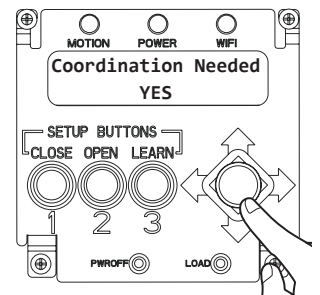

Figure 19
- ***Coordination Needed** = YES or NO. (Figure 19)